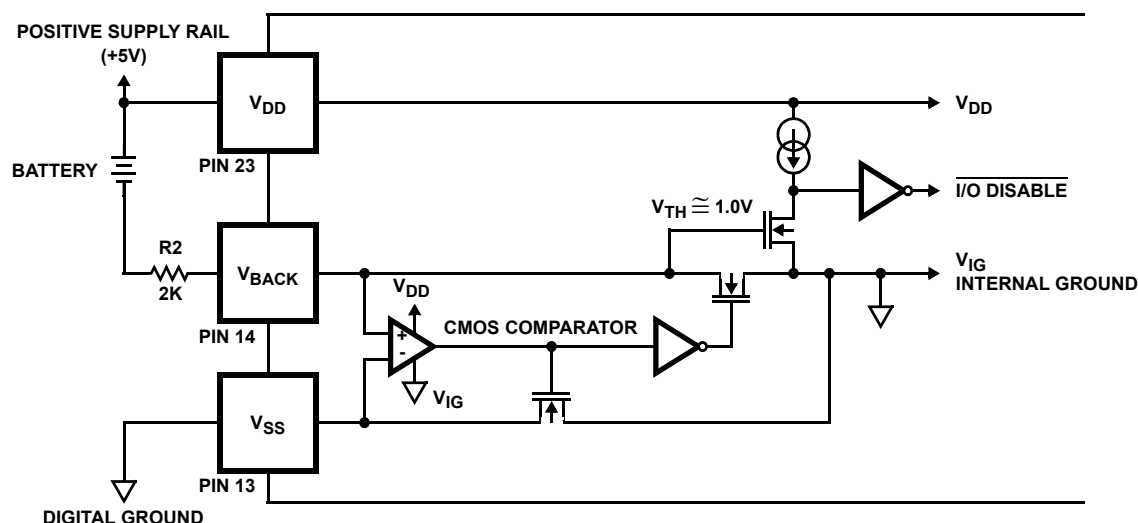

FIGURE 6. SIMPLIFIED ICM7170 BATTERY BACKUP CIRCUIT
The ICM7170 contains an on-chip power down detector that eliminates the need for external components to support the battery-backup switchover function, as shown in Figure 6. Whenever the voltage from the V_{SS} pin to the V_{BACKUP} pin is less than approximately 1.0V (the V_{TH} of the N-channel MOSFET), the data bus I/O buffers in the ICM7170 are automatically disabled and the chip cannot be read or written to. This prevents random data from the microprocessor being written to the clock registers as the power supply is going down.
The new load configuration (Figure 6) allows these two conditions to be met independently. The two load capacitors, C1 and C2, provide a fixed load to the oscillator and crystal. C3 adjusts the frequency that the circuit resonates at by reducing the effective value of the crystal's motional capacitance, C0. This minute adjustment does not appreciably change the load of the overall system, therefore, stability is no longer affected by tuning. Typical values for these capacitors are shown in Table 5. C1 and C2 must always be greater than twice the crystal's recommended load capacitance in order for C3 to be able to trim the frequency. Some experimentation may be necessary to determine the ideal values of C1 and C2 for a particular crystal.
4. **EXTERNAL BATTERY BACKUP** - The ICM7170 may be placed on the same power supply as battery-backed up RAM by keeping the ICM7170 in its operational state and having an external circuit switch between system and backup power for the ICM7170 and the RAM. In this case V_{BACKUP} should be pulled up to V_{DD} through a 2K resistor. Although the ICM7170 is always "on" in this configuration, its current consumption will typically be less than a microamp greater than that of standby operation at the same supply voltage (See Note 9). Proper consideration must be given to disabling the ICM7170s and the RAMs I/O before system power is removed. This is important because many microprocessors can generate spurious write signals when their supply falls below their specified operating voltage limits. $\overline{NANDing} CS$ (or $\overline{WR}$) with a $\overline{POWERGOOD}$ signal will create a $\overline{CS}$ (or $\overline{WR}$) that is only valid when system power is within specifications. The $\overline{POWERGOOD}$ signal should be generated by an accurate supply monitor such as the ICL7665 under/over voltage detector. An alternate method of disabling the ICM7170's I/O is to pull V_{BACKUP} down to under a volt above V_{SS} ($V_{SS} < V_{BACKUP} < 1.0V$). This will cause the ICM7170 to internally disable all I/O. Do not allow V_{BACKUP} to equal V_{SS} , since this could cause oscillation of the battery backup comparator (See Figure 6). $V_{BACKUP} = V_{SS} + 0.5V$ will disable the I/O and provide enough overdrive for the comparator.